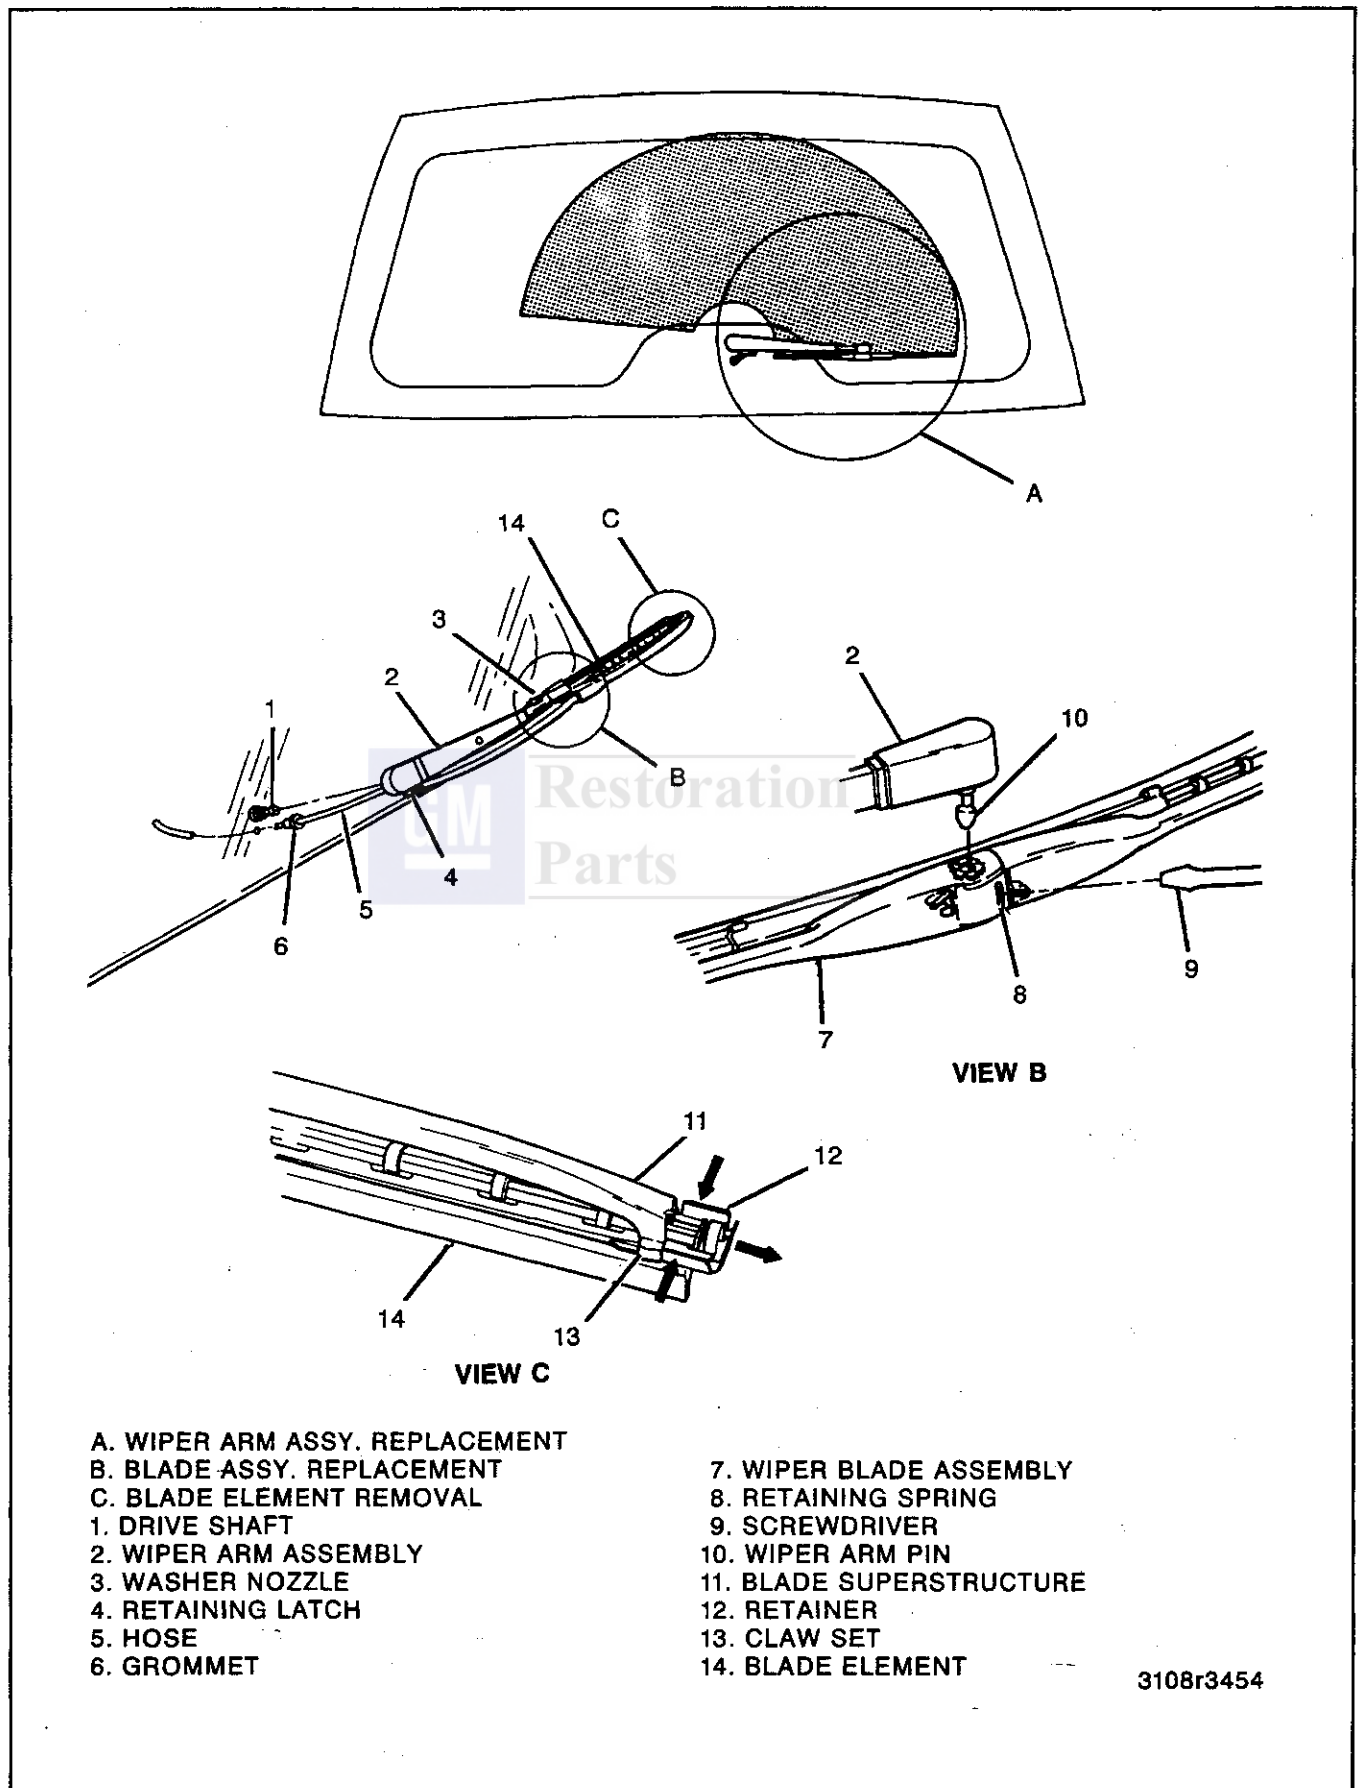

Figure 7—Wiper Arm Assembly, Blade, and Element Replacement
Remove or Disconnect (Figure 7)
Install or Connect (Figure 7)
- 2. Check the wipe pattern and compare it to figure 7.